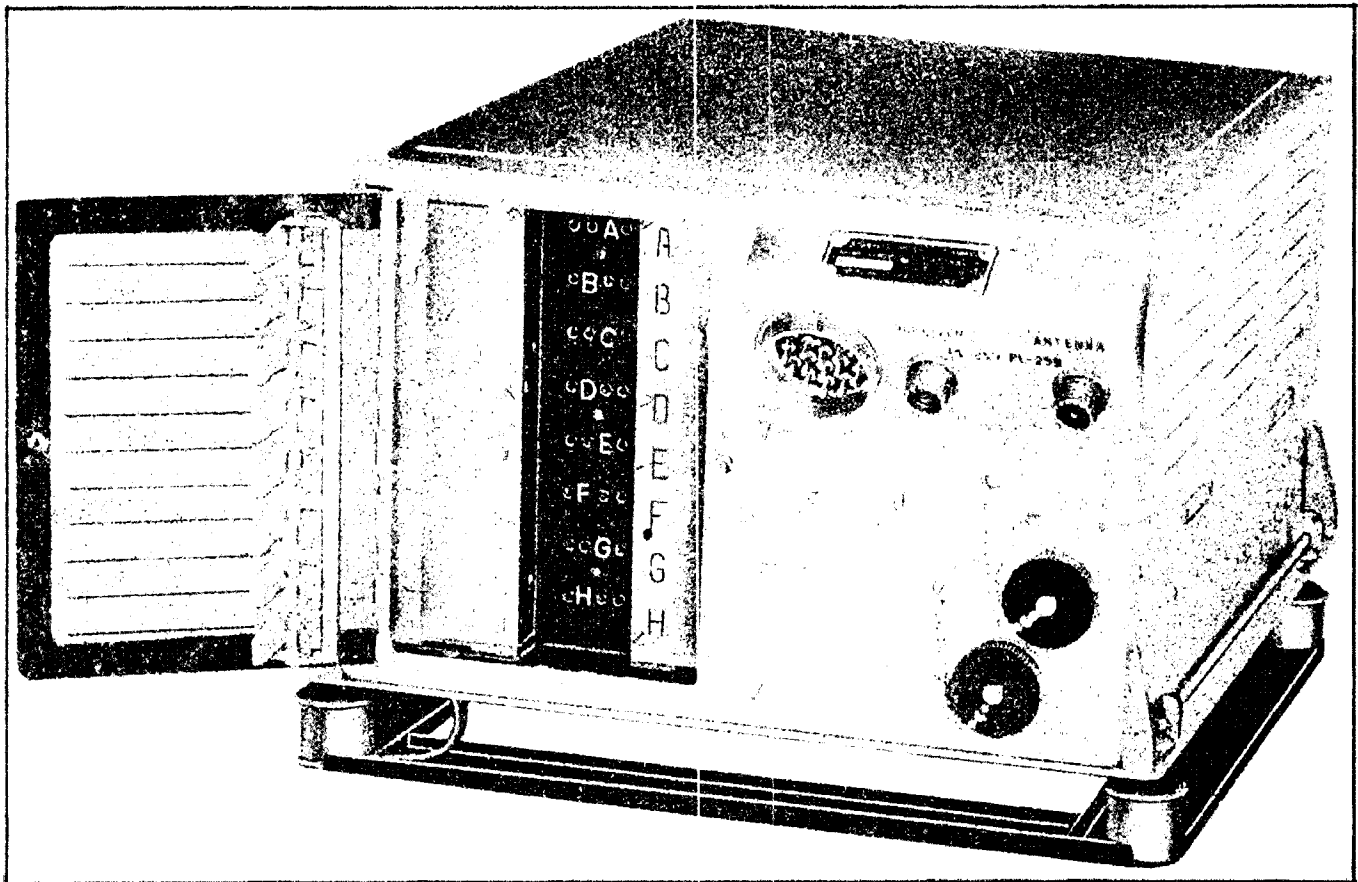

Figure 16. Transmitter T-67/ARC-3—with Crystal Compartment Door Open
(2) Install the transmitter (See fig. 16), receiver (See fig. 17) and power junction box (See fig. 18) in suitable positions in the airplane, allowing adequate clearance to easily permit their removal and replacement. Adequate clearance must also be allowed for the equipment's associated cords and plugs, for replacement of crystals and to permit a free movement on the shock absorber mountings. (For mounting dimensions see figs. 22 and 23.)
(3) Determine the exact locations of the forenamed units according to information furnished by the proper authorities.
(4) The units should be installed in a position approximately horizontal during the level flight of the aircraft.
(5) All units should be installed so that only minimum lengths of cording are required, to insure against excessive voltage drop.
(a) Turn winged Dzus fastener and open the hinged crystal cover door, located at the left of the front panel. The eight crystal sockets are designated with letters from "A" to "H." (See fig. 16.) These sockets are designed to accommodate Crystal Units DC-11, DC-16, DC-26, or CR-1 crystals.